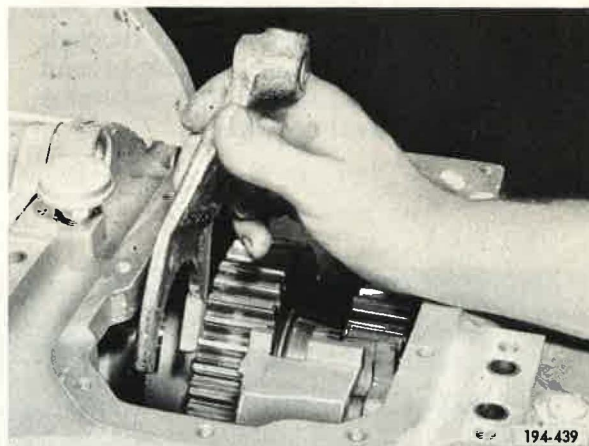

Figure 67. Installing Second and Third Speed Shifter Fork
3. Install second and third speed shifter fork on second and third speed sliding clutch. See Figure 67.